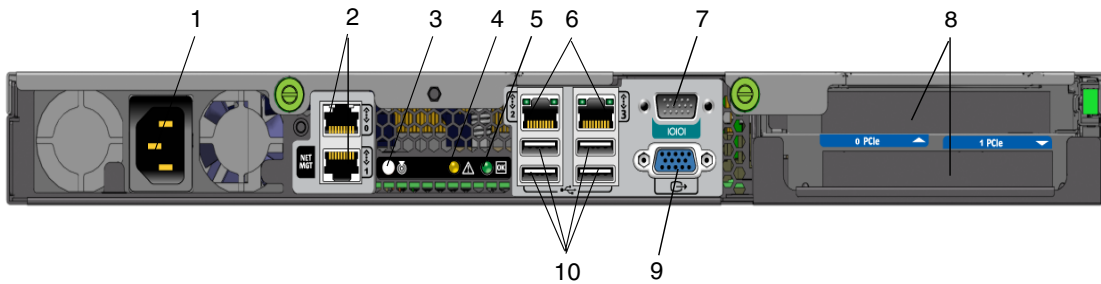

FIGURE 1-2 Back Panel
See FIGURE 1-2 and TABLE 1-1 for the locations of the connectors.
3. **Connect Ethernet cables to the RJ-45 LAN Gigabit Ethernet connectors as needed (see FIGURE 1-2).**